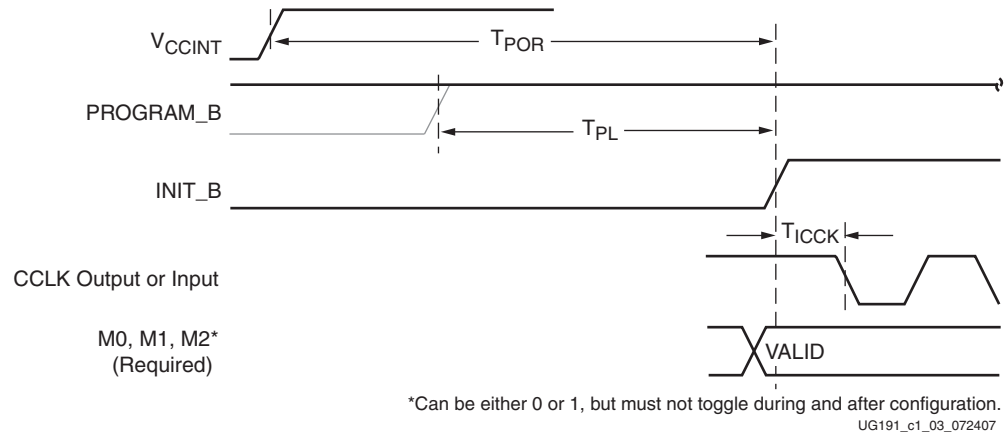

Figure 1-4: Device Power-Up Timing
Figure 1-4 shows the power-up waveforms.
Configuration memory is cleared sequentially any time the device is powered up, after the PROGRAM\_B pin is pulsed Low, after the JTAG JPROGRAM instruction or the IPROGRAM command is used, or during a fallback retry configuration sequence. During this time, I/Os are placed in a High-Z state except for the dedicated Configuration and JTAG pins. INIT\_B is internally driven Low during initialization, then released after TPOR (Figure 1-4) for the power-up case, and TPL for other cases. If the INIT\_B pin is held Low externally, the device waits at this point in the initialization process until the pin is released.
- The first is to hold the INIT\_B pin Low during initialization (Figure 1-4). When INIT\_B has gone High, configuration cannot be delayed by subsequently pulling INIT\_B Low.